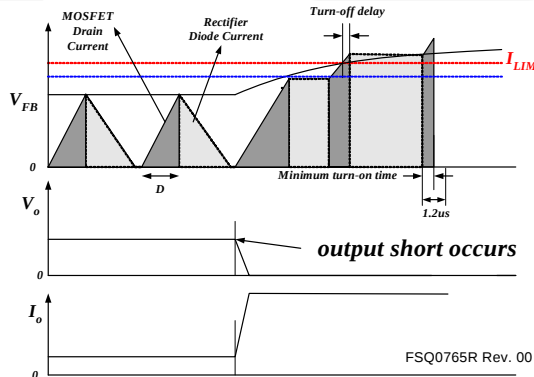

Figure 31. Output Short Waveforms
4.3 Output-Short Protection (OSP): If the output is shorted, steep current with extremely high di/dt can flow through the SenseFET during the LEB time. Such a steep current brings high voltage stress on drain of SenseFET when turned off. To protect the device from such an abnormal condition, OSP is included in the FSQ-series. It is comprised of detecting V_{FB} and SenseFET turn-on time. When the V_{FB} is higher than 2V and the SenseFET turn-on time is lower than 1.2μs, the FPS recognizes this condition as an abnormal error and shuts down PWM switching until V_{CC} reaches V_{start} again. An abnormal condition output short is shown in Figure 31.